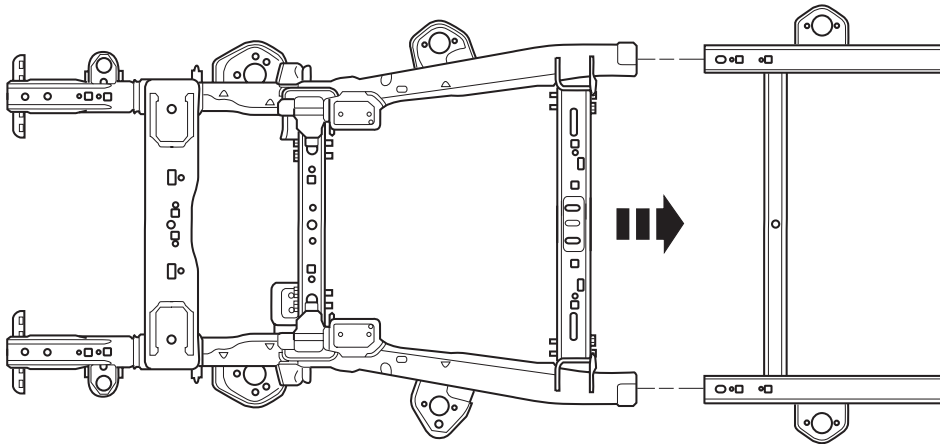

FIGURE 2 – TYPICAL DISASSEMBLED VIEW
2. Using proper eye, face, and ear protection, grind the welds holding the front lower control arm mounting bracket to the frame, and remove the frame bracket. Be careful not to cut into the frame cross member since it will be reused. (Refer to Figure 2).